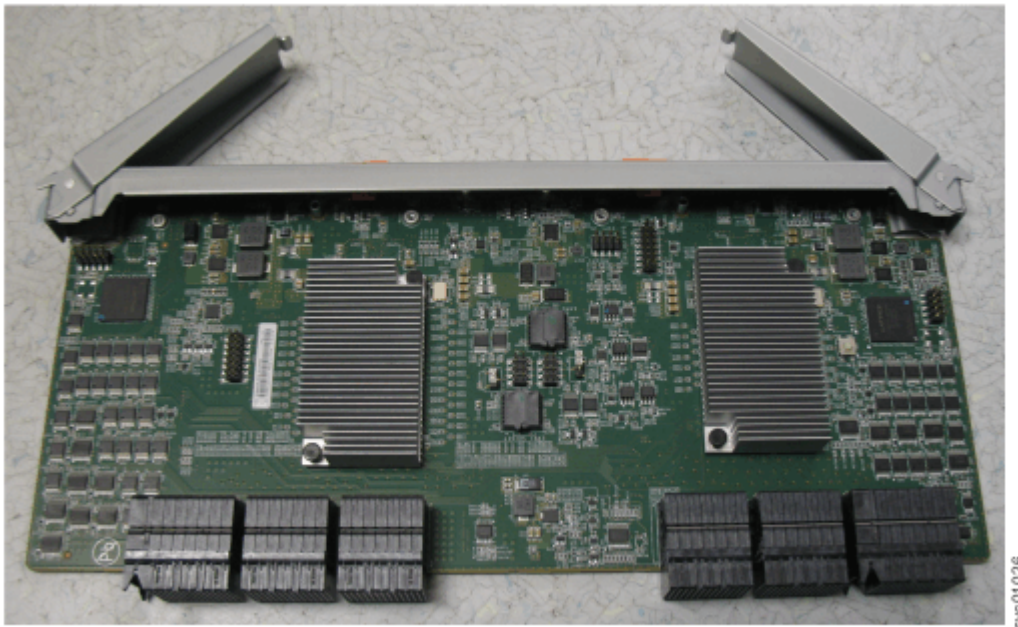

Figure 158. Secondary expander module removed from the enclosure
5. Place the secondary expander module in a safe location, as shown in Figure 158 on page 190.